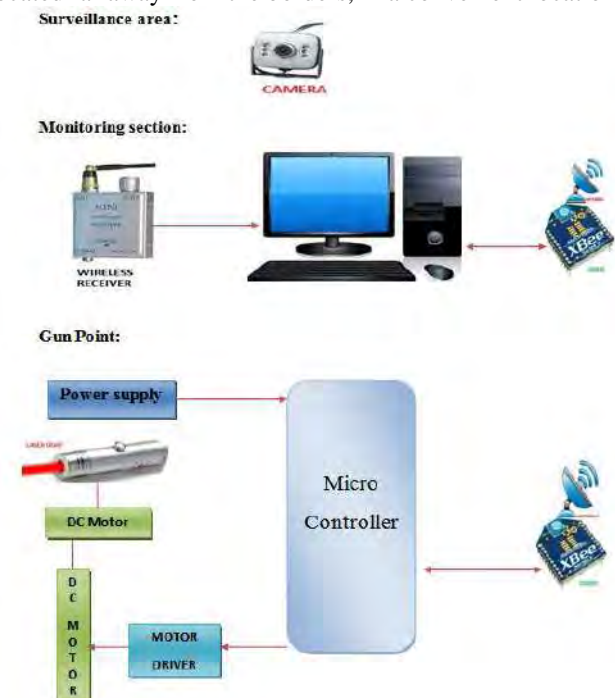

Fig.1. The Block Diagram.
A. Floating Gate (FG) and Quasi-Floating Gate (QFG)
FGMOS and QFGMOS [4] based circuits can operate at much lower supply. The advantage of these approaches lies in terms of linearity as the input coupling capacitor divider makes input signal to attenuate and increases the linearity. The architecture of N-channel FGMOS (M1) is shown in fig. 1 (a). Under DC analysis, the gate of M1 is at floating potential. The input capacitance is formed by second layer of poly silicon over the poly layer of gate. The input capacitor (C) formed is named as poly-poly layer (PIP) capacitor. Using the law of charge conservation at floating gate (V_{FG}), the floating gate voltage is given as
where $C_T = C + C_{GS} + C_{GD} + C_{GB}$, C_{GS}, C_{GD}, C_{GB} are the parasitic capacitance associated the floating gate node, and Q_0 is the initial charge trapped in the floating gate during fabrication. The trapped charge Q_0 at floating gate [5] and attenuation of effective gate input voltage due to input capacitor divider were the main obstacles with FGMOS. Many research articles came to overcome these issues at the expense of extra circuitry. Later, with introduction of QFGMOS (architecture similar to FGMOS) associated drawbacks of FGMOS were no more issues. The schematic of QFGMOS (M1) is shown in Fig. 1 (b). The only difference
A block diagram of this system is depicted in Fig.1. This system uses surveillance camera for imaging, as they can be used regardless of the amount of ambient light, rendering its usage in the night as well. These cameras are lined up along the borders, at a certain distance apart from each other, depending on the range of the cameras. These cameras which continuously scan the corresponding areas of the border are in turn connected to a Digital Signal Processing (DSP) [2] unit, which accomplishes the task of intrusion detection by continuously comparing the images obtained, with a reference image and also with the images captured previously. Any sign of change in the successive images indicates dubious movements in that area, which would result from intrusion. This is immediately reported, by means of a wireless communication system comprising a satellite, to a centralized control room, which may be located far away from the borders, in a convenient location.